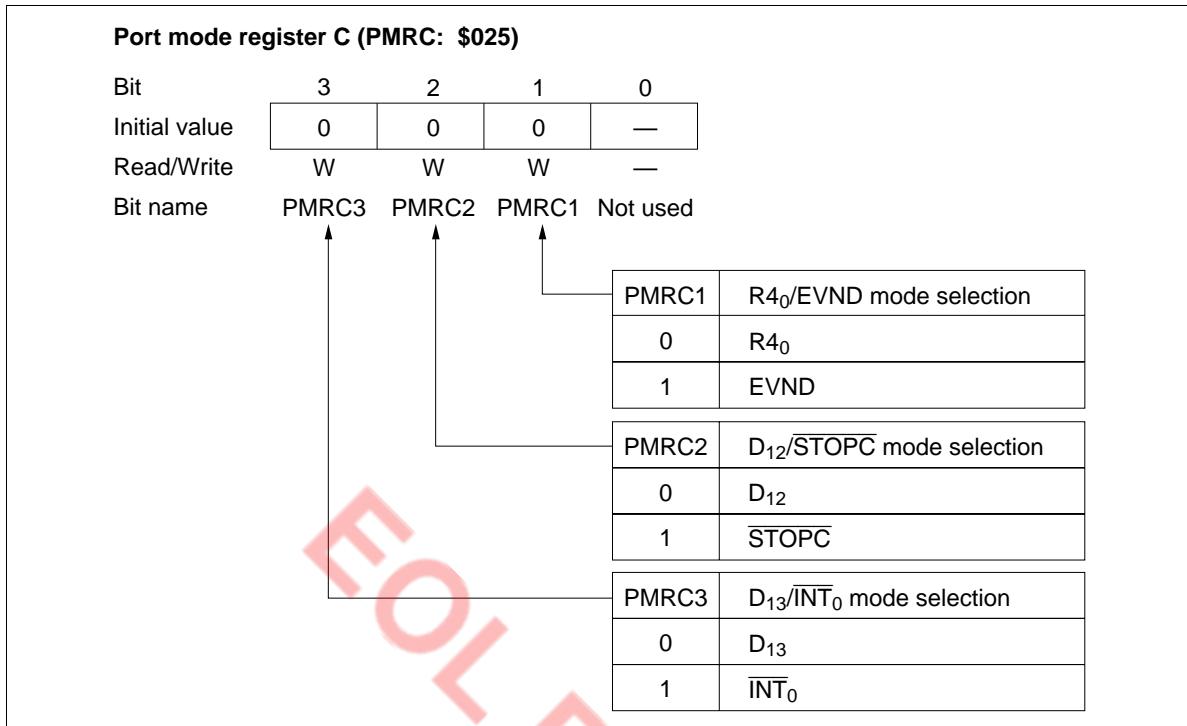

Figure 50 Port Mode Register C (PMRC)
- Port mode register C (PMRC: \$025): Write-only register that selects R₄/EVND pin function as shown in figure 50. It is reset to \$0 by MCU reset.